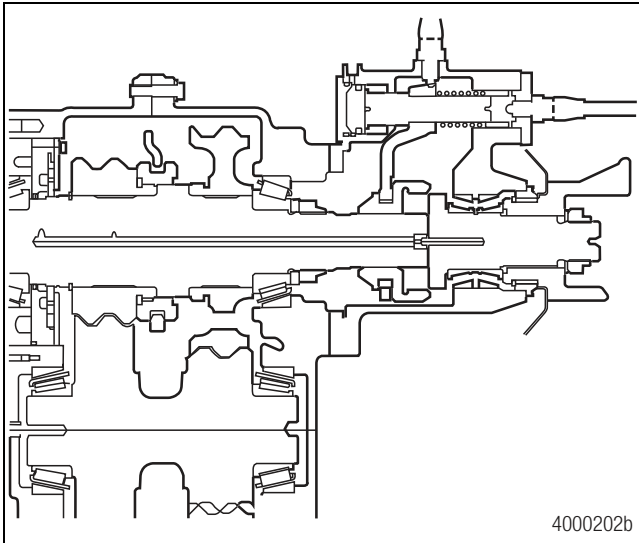

Figure 5.13
1. Rotate the transfer case in the repair stand so the PTO assembly, if so equipped, is facing UPWARD. Figure 5.13.